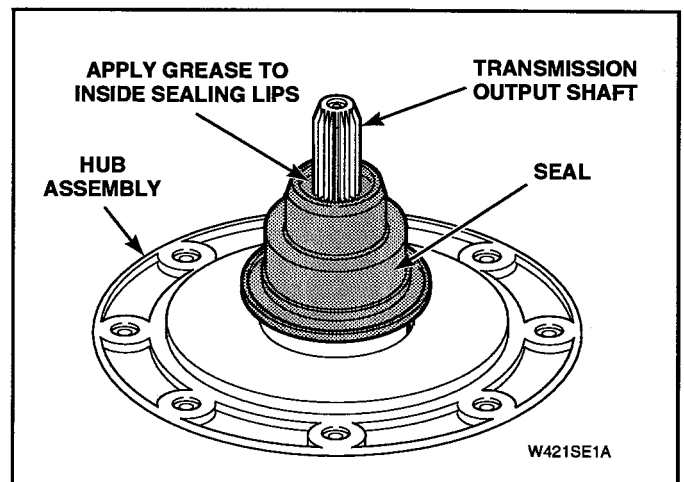

Figure 5-16
- l. Lubricate new seal with liquid soap or soapy water to aid in assembly of seal onto hub. See Figure 5-16.
- m. Apply a small amount of supplied grease, No. 36765P, to inside sealing lips of seal. See Figure 5-16.
**NOTE:** Top edge of front panel is held in place by two spring clips located on bottom flange of cabinet top. See Figure 5-16.